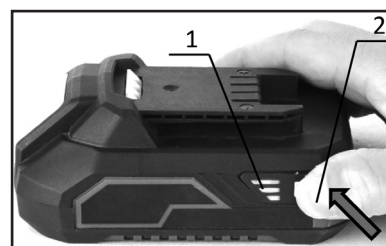

Fig. 2
- To remove the battery (2), slide it from the tool while sliding the button (1) on the front of the battery.
**Indicating the remaining battery capacity (Fig. 2)**
- Press the check button (2) on the battery to indicate the remaining battery capacity.
- The indicator lamps (1) light off in about 5 seconds after releasing the check button.